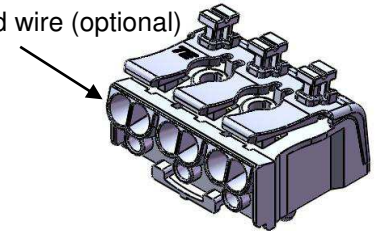

Figure 2
When preparing stranded or tin-dipped stranded wire, it is recommended to twist strands after stripping the insulation. The strands need to be well organized and in a uniform straight style. The stranded wire need to be coated with Tin. Too much Tin coated is not allowed. Tin dipping depth is same as wire strip length. The wire strip length is 8.0-10.0mm and the typical unacceptable wire preparation example is shown on Figure 2.
2. If using customer-assembled connectors, strip wires with applicable copper conductors provided in Figure 2.